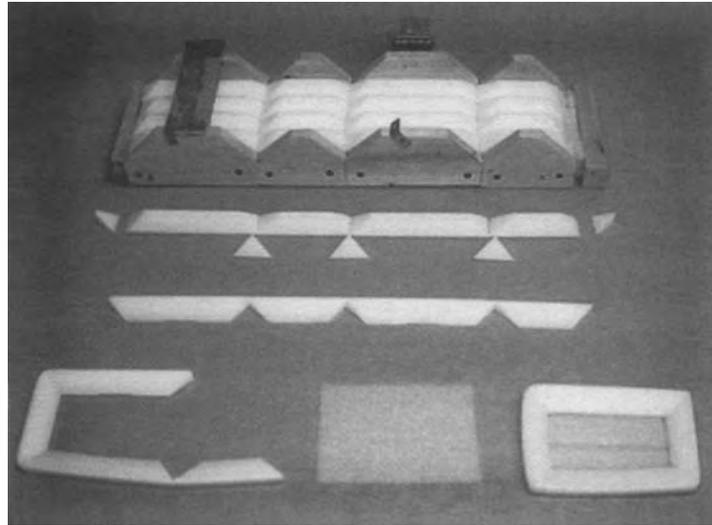

Figure 4. Construction of bead bumpers.
3.2 Instructions (see Fig. 4)
3. Using a foam knife, make angled cuts part way through the foam in three places corresponding to the dimensions of the base; bevel the ends so that they fit together at a right angle. A jig (shown in Fig. 4) can be constructed to enable several pieces of rod to be notched at the same time.